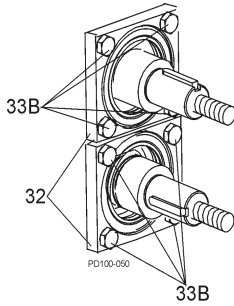

Figure 42 - Remove Bearing Retainers
- Remove the front bearing retainer screws (Figure 42, item 33B) and pull off the bearing retainers (item 32). (If a retainer is stuck, leave it in place; it will press out when the shaft is removed.)